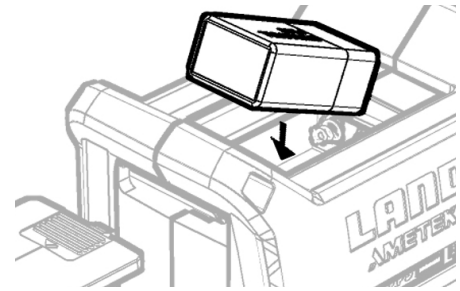

Fig. 4-3
- 4) Ensure that the battery terminals correspond with the label in the battery compartment (see Fig. 4-3).